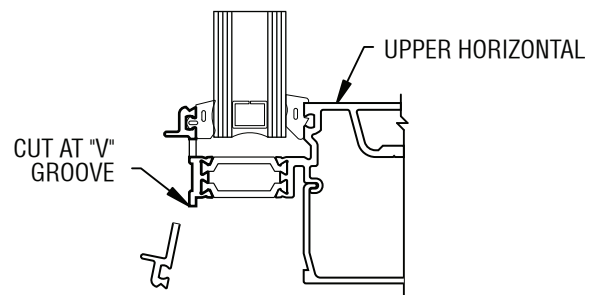

Figure 34
- D.2.1 Remove lower section of upper horizontal as shown in **FIGURE 34.**